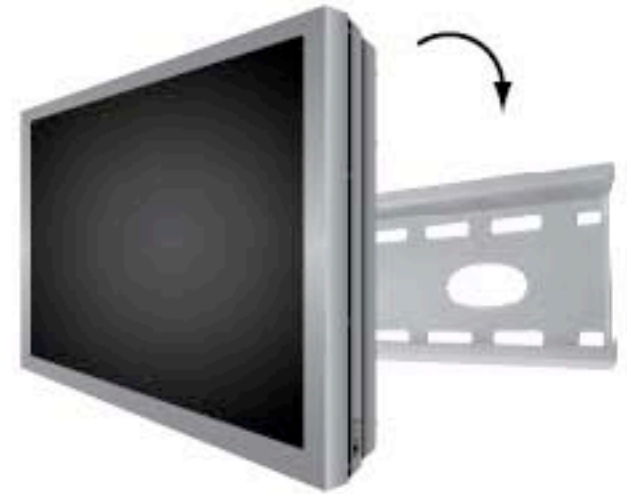

Fig. 5 - Carefully hook the display onto the wall plate.
1. With the help of another person, carefully lift your display and place it on the wall plate (Fig. 5). Do not release the display until the mounting arms have securely hooked onto the mount.